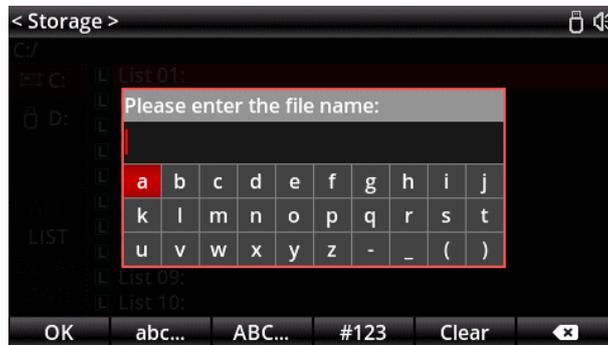

Figure 13-2 Filename Editing Page
- (1) Use the encoder rotary knob, the arrow keys and Esc key (return to the previous level) to select or load the saved file.
- (2) Function keys:
- (3) Save: Press the Save key to save the data to the specified location. Filename setting as shown in Figure 13-2.